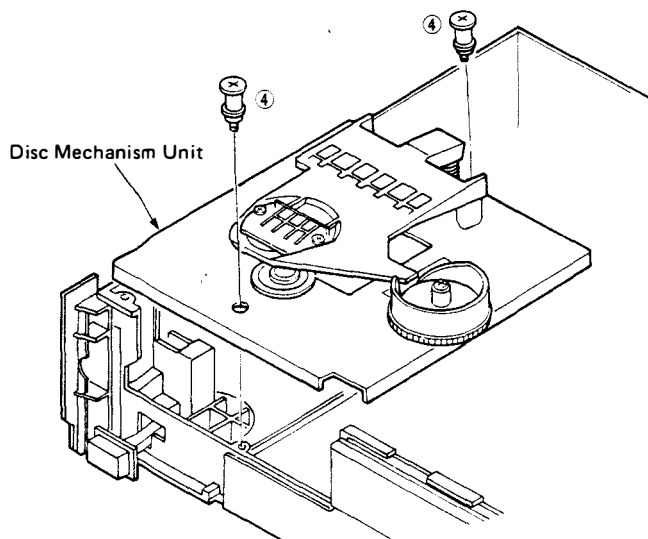

Fig. 4
- Remove 2 screws ( ④ ) in Fig. 4.